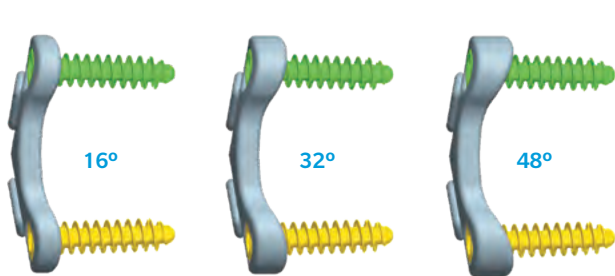

Figure 6:
- The lumbar plate is offered in 16°, 32°, or 48° configurations (Figure 6).